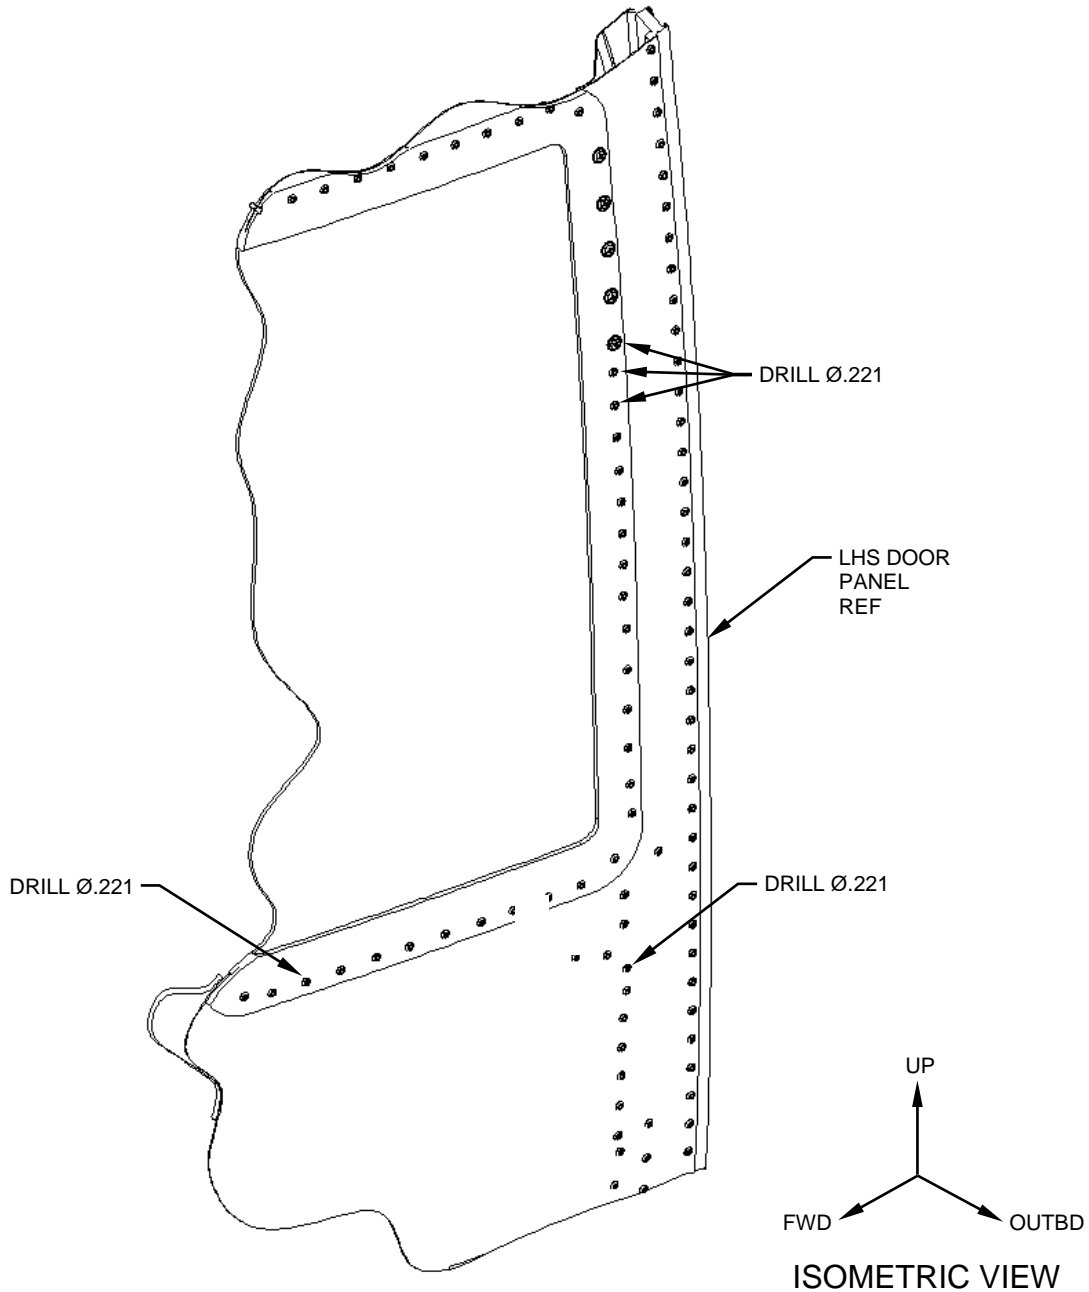

Figure 2
2. Drill out the indicated rivets and upsize the resultant holes to $\text{\O}.$ 221 (#2). Reference Figure 2.